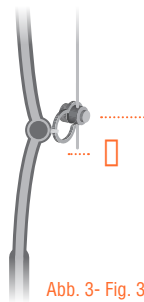

Abb. 3- Fig. 3
- Feed the pull cords through the cord stoppers and cut off any excess cord. (see fig. 3).